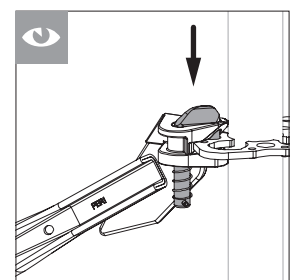

Fig. A4.11e
5. Engage bolt (**24.4**) completely in the brace adapter (**12.3**). (Fig. A4.11e)